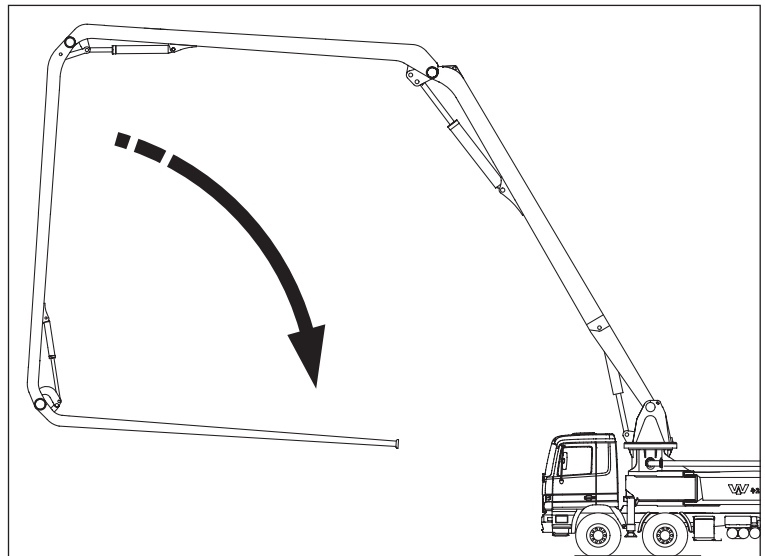

Fig. 7.16 Deploy boom element D
- Use the joystick “Deploy boom element C and D” (Item 1, Fig. 7.18) to deploy boom element D to 90° to boom element C (see Fig. 7.16).